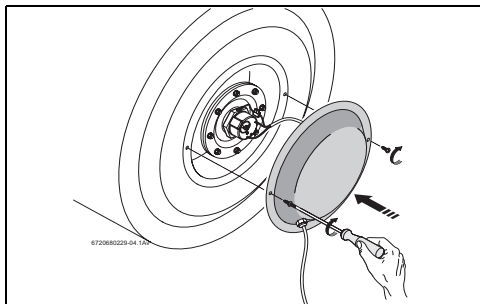

Fig. 10
- ▶ Tighten the maintenance cap again (→ Fig. 10).